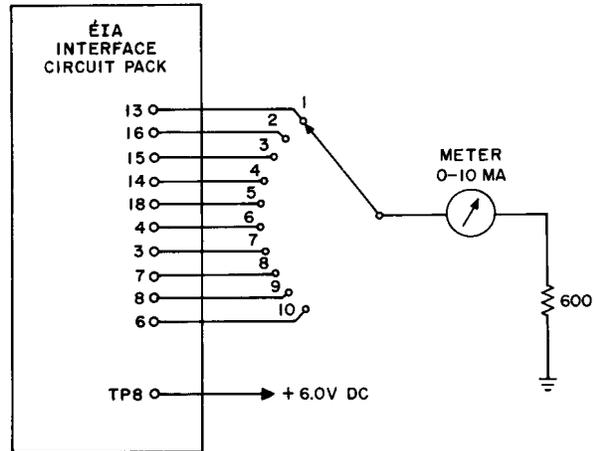

Fig. 46A — EIA Interface Test Circuit
8.07A Output Clipping Diode Short Test: With the circuit pack connected to the suggested test circuit shown in Fig. 46A, connect +6.0 (± 0.3) Vdc to test point 8 on the circuit pack. Measure the current drawn at each output terminal by rotating the switch through positions 1 to 10. At each position of the switch, the current drawn should be less than 1.5 mA dc.